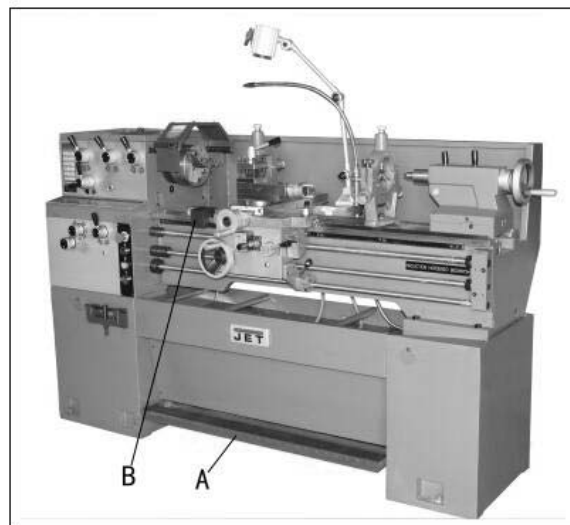

Figure 17
20. **Foot Brake** (A, Fig. 17) – located between stand pedestals. Depress to stop all lathe functions.
21. **Micro Carriage Stop** (B, Fig. 17) – located on the lathe bed. Loosen two hex socket cap screws underneath body and slide along bed to desired position. Tighten screws to hold in place.